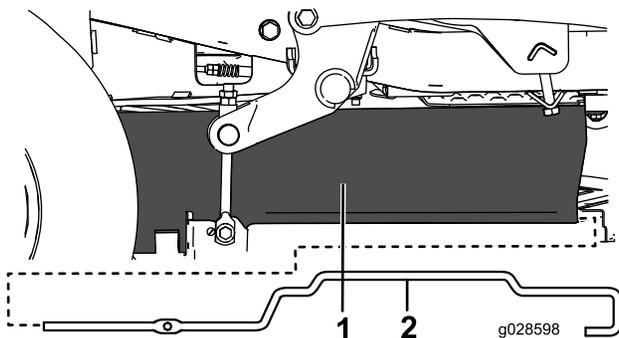

Figure 8
2. Insert the new support rod into the curtain (Figure 8).